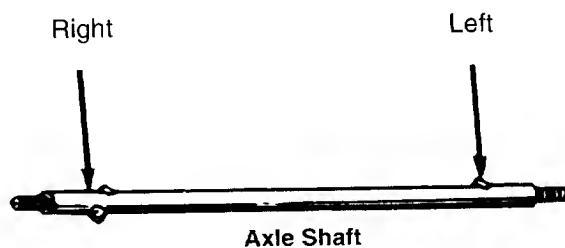

FIGURE 5
- The rear axle shaft has a right side and a left side. The right side has two tabs and the left side has one tab. See Figure 5.